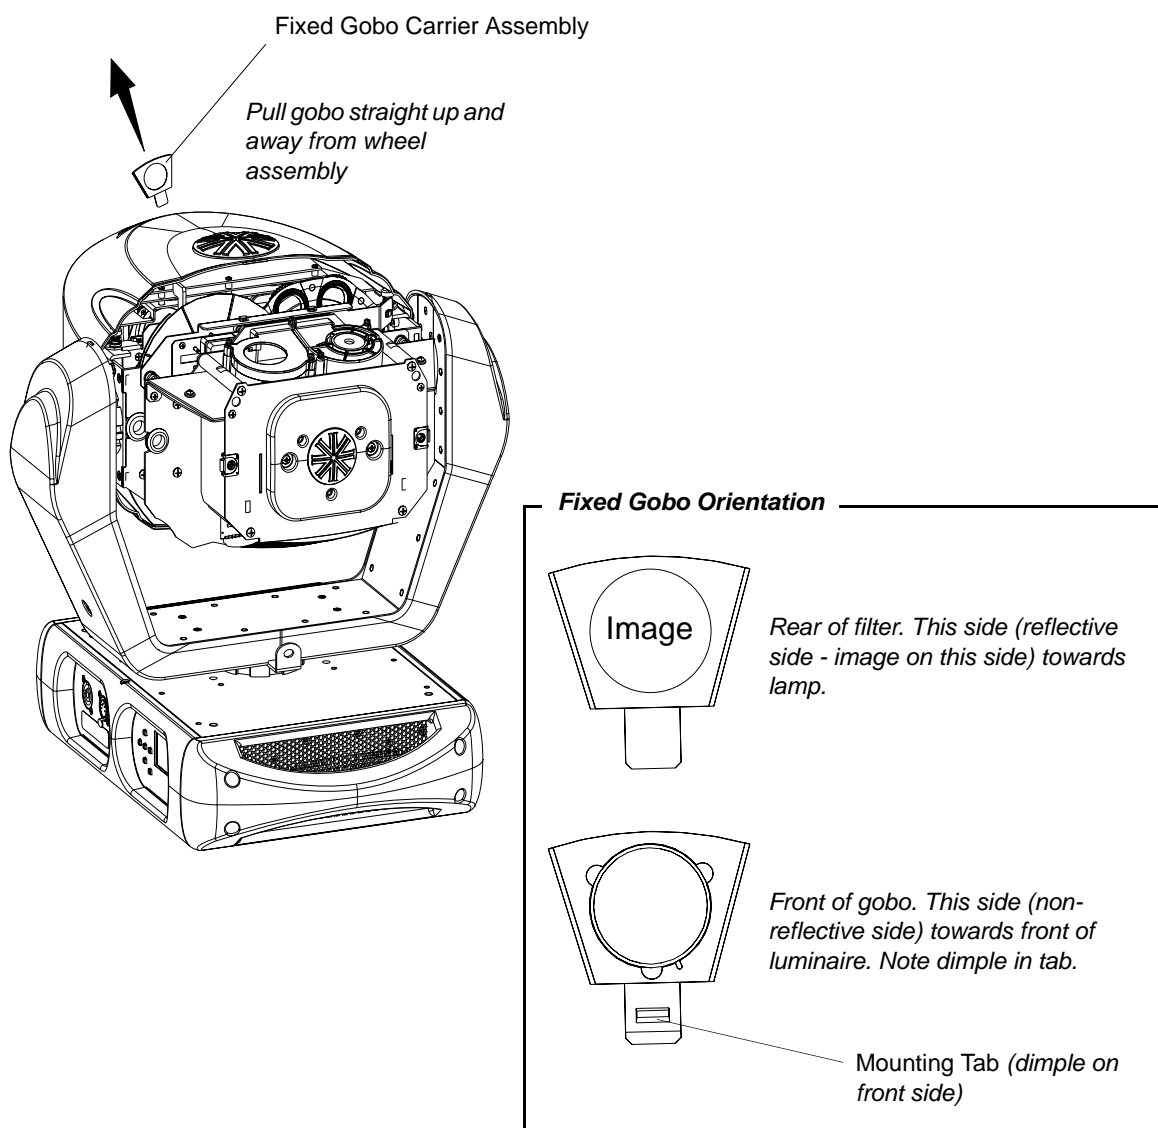

Figure A-11: Removing / Installing Fixed Gobos
- Step 3. At fixed gobo wheel, slowly rotate wheel by hand until gobo to be removed is at top of assembly as shown in Figure A-11.